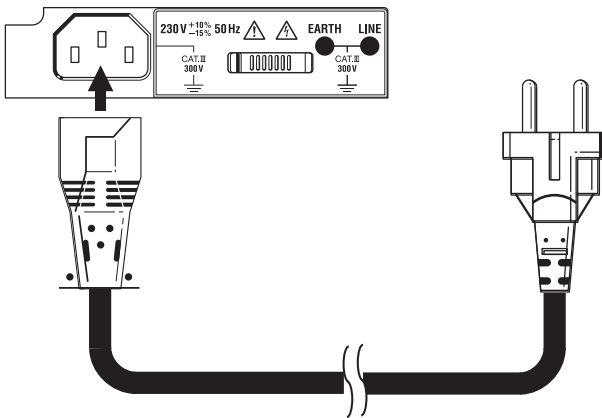
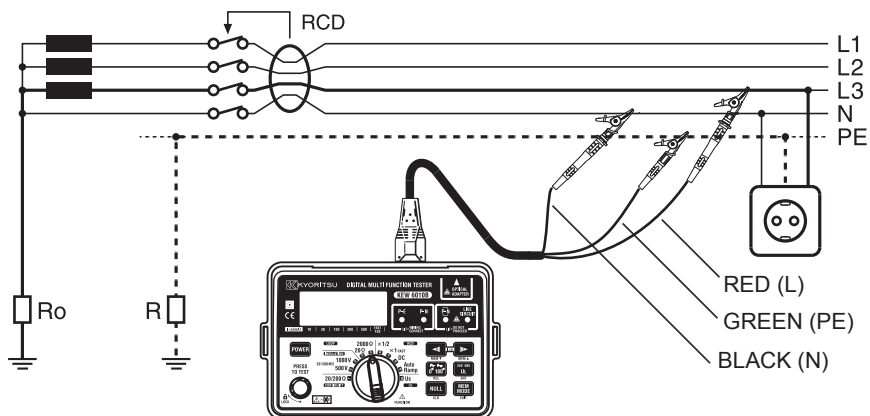

Fig 11
Fig 12
3. If testing sockets, connect the plug lead to the KEW 6010B and push the moulded plug into the socket to be tested (see Fig 11).
7. If testing lighting or other circuits, connect the three-wire lead Model 7133B (OMA DIEC :optional accessory) to KEW 6010B, connect the red (phase) lead to the phase connection of the circuit under test, connect the black (neutral) lead to the neutral connection of the circuit under test, and connect the earth lead to the earth associated with the circuit (see Fig 12).
4. Connect the instrument to the RCD to be tested either via a suitable socket outlet (see Fig 11) or using the Model 7133B (OMA DIEC) test lead set (see Fig 12).
5. Connect the instrument to the RCD to be tested either via a suitable socket outlet (see Fig 11) or using the Model 7133B (OMA DIEC) test lead set (see Fig 12).